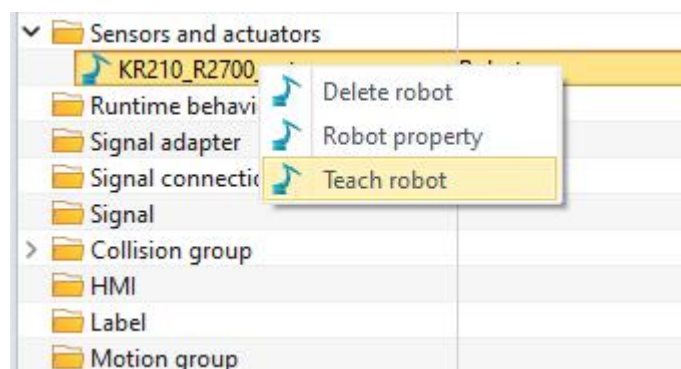

Figure 11-16: Teach Robot
- Under “Sensors and actuators”, right-click on “Robot” and select “Teach Robot”. (Figure 11-16)